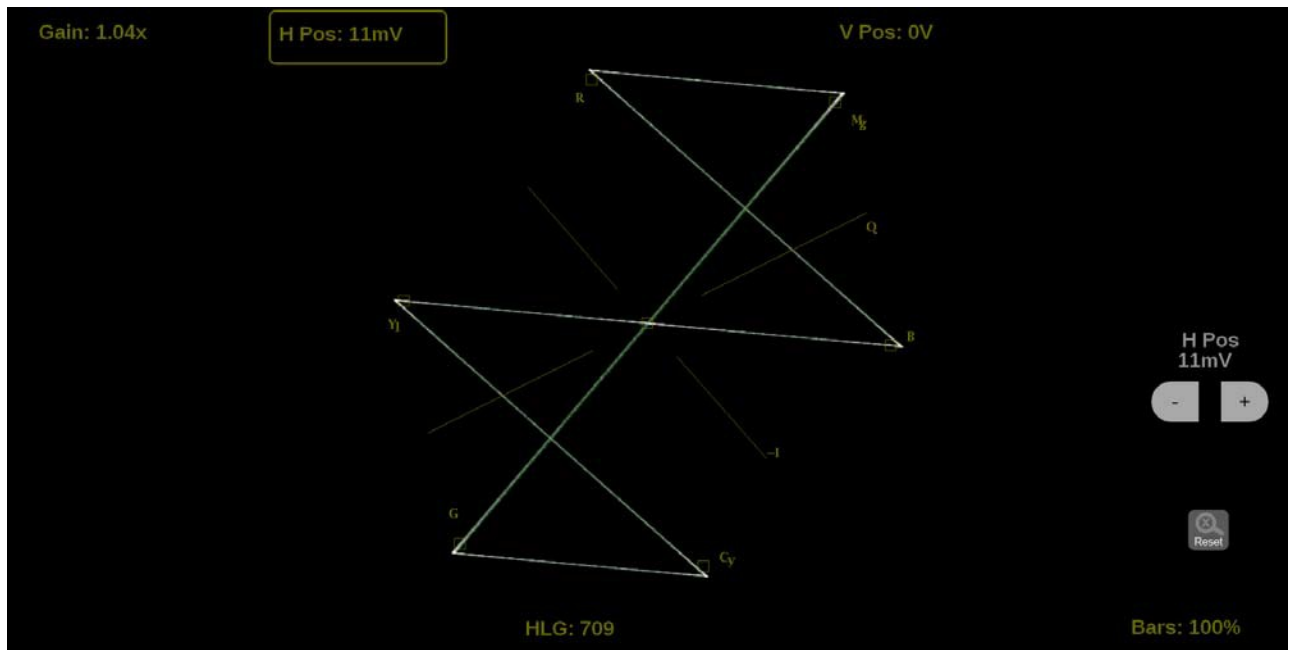

Figure 100: Vector on-screen tools – horizontal position
1. Select the **H Pos** button to allow adjustment of the horizontal trace. (See Figure 100.)